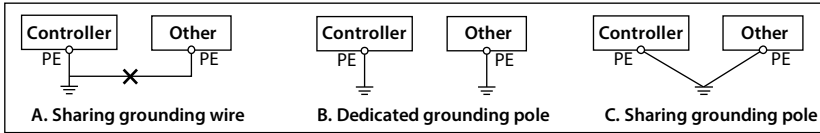

Figure 4-7 Grounding method
Do not share the grounding wire with other devices (A). HD3N-L can share grounding pole with other devices (C). It achieves the best effect if HD3N-L and other devices use dedicated grounding poles (B), as shown in Figure 4-7.